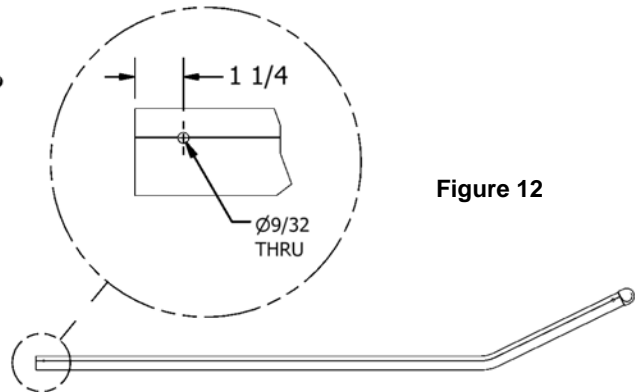

Figure 12
9) **See Figure 12.** In assembled double bow arm, drill a 9/32" diameter hole 1 1/4" from the end along groove. Repeat for second arm.